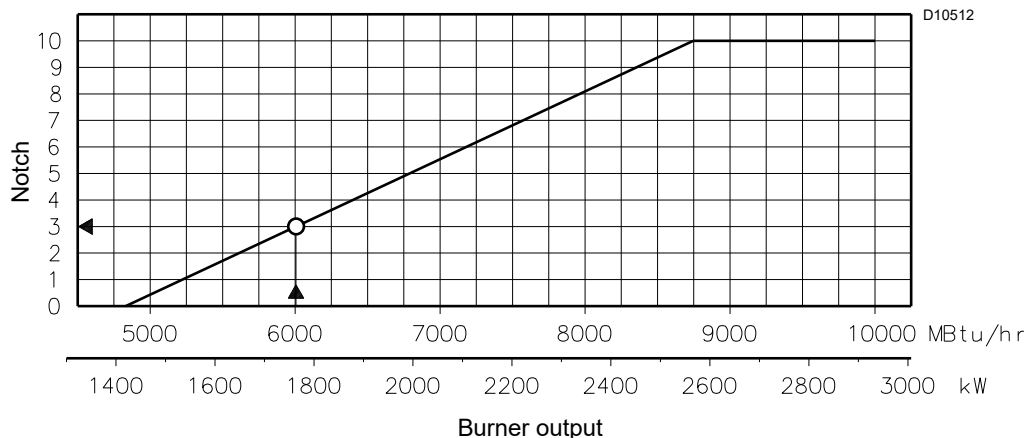
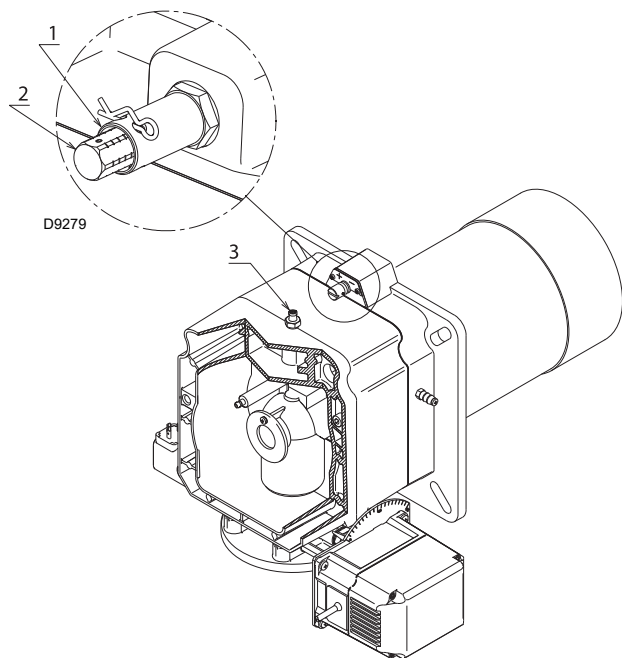

Fig. 14
Fig. 15
In the diagram of Fig. 14, find the notch at which to adjust both air and central gas/air.
Rotate the screw 2)(Fig. 15) until the notch you have found corresponds with the front surface 1) of the flange.
To facilitate adjustment, loosen the screw 3)(Fig. 15), adjust and then lock.
The diagram of Fig. 14 shows that the adjustments for this potential is external air R1 = notch 3.
- Ring nut 2)(Fig. 15 on page 19) adjusted as in the diagram of Fig. 14 on page 19
- Ring nut 2)(Fig. 15 on page 19) adjusted as in the diagram of Fig. 14